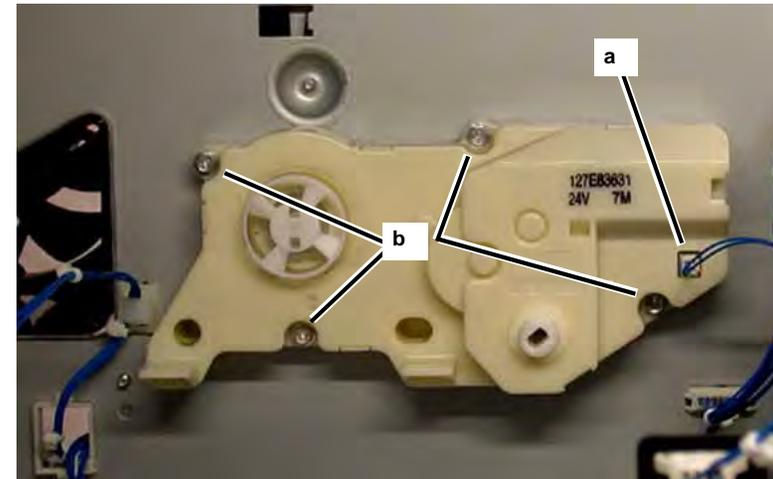

Figure 8 Removing The Motor
9. Remove the Toner Dispense Motor (Figure 8).